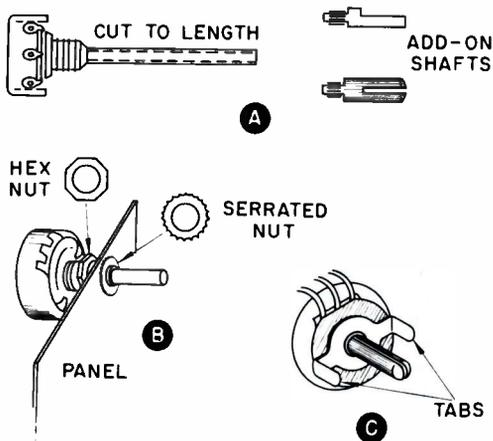

FIG. 3. Potentiometer mounting: (A) Hollow extension shaft; (B) double-nut mounting; (C) twist-tab mounting.
Depending on the particular mounting and knob, there are several shafts commonly furnished with pots: slotted, fluted, round, half-round, screwdriver adjust, and the hollow shaft, which will accept almost any of the previous as an extension. Fig. 3(A) shows how it works -- you cut the shaft to the desired length and insert the small end of one of the extensions. Three types of switch are often used with pots, the turn, the push-pull, and the push-push. These are clamped to the back of the pot, unlike older types, which were integrated assemblies. Although some technicians replace both switch and control when either goes bad, the snap-on switch enables you to salvage one or the other if you're short on stock. Some pots are tapped -- e.g., audio tone or loudness controls. These must be ex-
Two general types of shaft mountings are available -- the concentric nut and the twist tab. The former usually comes with a single nut, but some have two. As Fig. 3(B) shows, the hex nut should mount behind the panel, and the serrated nut in front. The serrated nut is round and has a dressy appearance. The two are tightened against each other to grip the frame of the pot securely on the front panel. The twist-tab mounting, shown in Fig. 3(C), is usually found in transistor or printed-circuit applications. Two metal tabs protrude from the sides of the control; these are inserted in the chassis and twisted like the ears on a filter capacitor. This type is often furnished with a non-conducting phenolic shaft, serrated and split, for back-panel TV size control use, where a metal shaft would present a shock hazard.